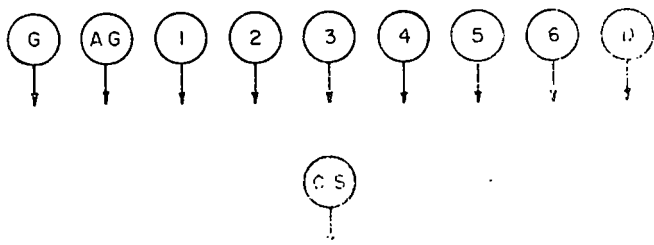

Figure 4. Section in formation.
- (1) Moves at double time.
- (2) Forms in single rank at close interval, with the gunner on the right, the assistant gunner, the cannoneers in numerical order, and the driver at the left of the rank.
- (3) Centers on the chief of section at a distance of 3 paces (fig. 4).